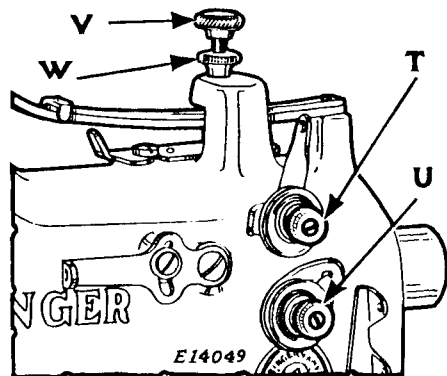

Fig.9. To Adjust Needle Thread and Looper Thread Tensions
To increase the tension on the needle thread, turn the thumb nut (T, Fig.9) over to the right, or turn the thumb nut (T) over to the left to decrease the needle thread tension.
To increase the tension on the looper thread, turn the thumb nut (U, Fig.9) over to the right, or turn the thumb nut (U) over to the left to decrease the looper thread tension.
The pressure of the presser foot on the material is regulated by means of the thumb screw (V, Fig.9) at the top of the machine.
Loosen lock nut (W, Fig.9) and, to increase the pressure, turn thumb nut (V) downward, or turn the thumb nut (V) upward to decrease the pressure, then securely tighten the lock nut (W).